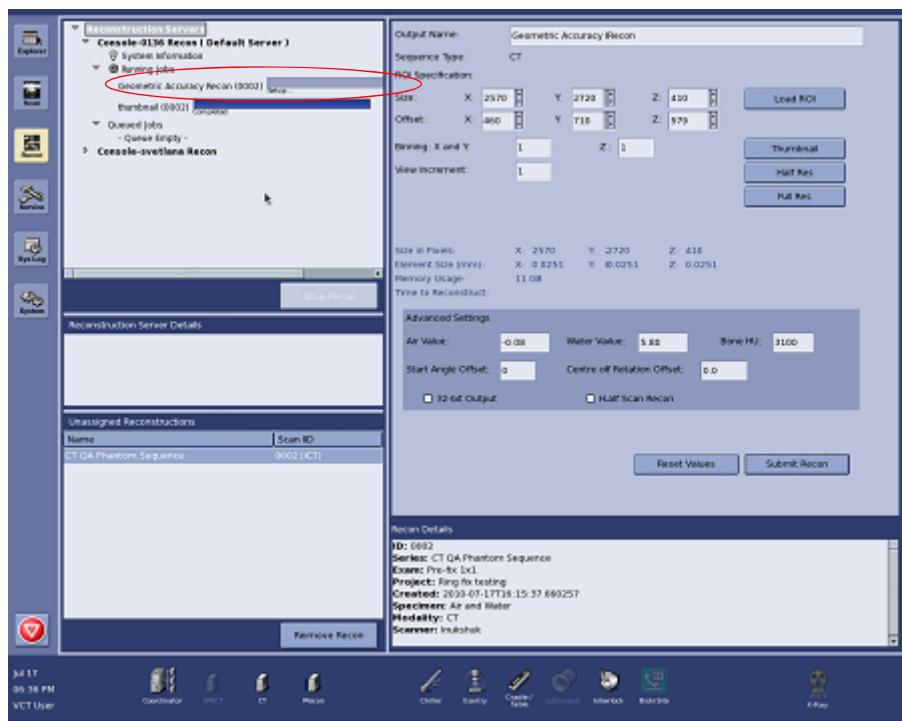

Figure 7-109
- 14.) Reconstruct the selected ROI using full resolution (click Full Res button on the Recon page) and change output name to be: Geometric Accuracy Recon. (Figure 7-108). Click the Load ROI button ,and then click the Submit Recon button. Geometric Accuracy Recon now appears in the Recon queue (circled in Figure 7-109).